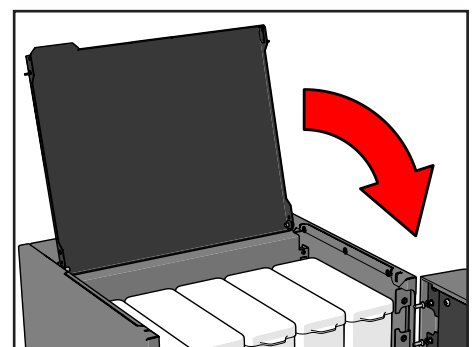

Figure 53.
7. Close the top cover (see Figure 53).